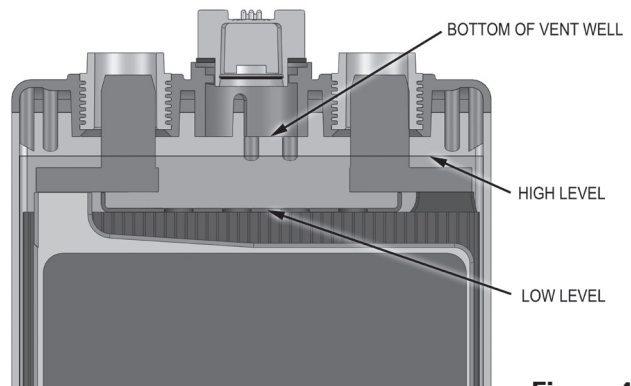

Figure 4
- A HAWKER®-approved watering gun is a convenient and accurate tool to aid in watering as it fills to a pre-selected height and automatically shuts off; however, care must be taken to adjust the watering gun so it will water cells to levels following **Figure 4**, on the next page.
- Water should only be added to the battery when it is near the end of charge and gassing. As the electrolyte is at its maximum level during this time, it is a certainty that the level established by the addition of water will not be exceeded at any other time, and overflow of the electrolyte (flooding) will never occur. When watering near or at the end of the charge, sufficient water should be added to bring the level of the electrolyte between its upper limits. See **Figure 4** for details.
Figure 4: Sketch showing permissible high and low limits of electrolyte level. High-level marker indicates proper level immediately after charging. Low-level marker indicates immediately after charging watering is required. The high-level line is 1/4" below the bottom of the vent well.